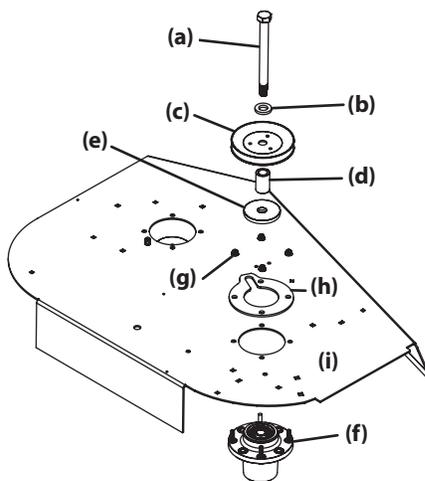

Figure 49
- Remove the hex bolt (a), washer (b), pulley (c) spacer (d) and fender washer (e) from the spindle assembly (f) (Figure 49).
- Remove the four flange lock nuts (g) and support plate (h) securing the spindle assemblies (f) to the deck (i) (Figure 49).
- Reverse STEPS 4-5 to install the spindle assembly. When installing the new spindle assembly be sure to install the hardware exactly as shown in Figure 49. Torque the flange lock nuts to 21-32 ft-lbs (28.47-43.39 N-m).